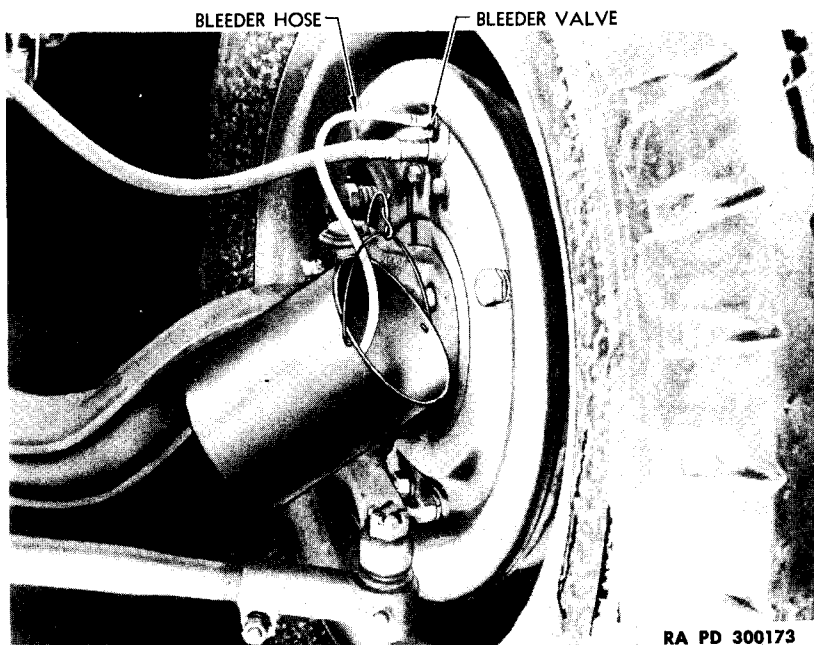

Figure 83—Bleeding Front Brake
a. Whenever any service operations make it necessary to disconnect hydraulic lines, it is necessary to bleed entire brake system. A bleeder screw is provided at each wheel cylinder, also three bleeder screws are used at the hydrovac unit (figs. 83, 84, and 90). There are two methods of bleeding the lines—pressure and manual.
(1) Remove screws attaching floor boards and remove floor boards. Remove filler cap from master cylinder. When using pressure tank, make sure fluid level is up to pet cock above outlet, and that tank